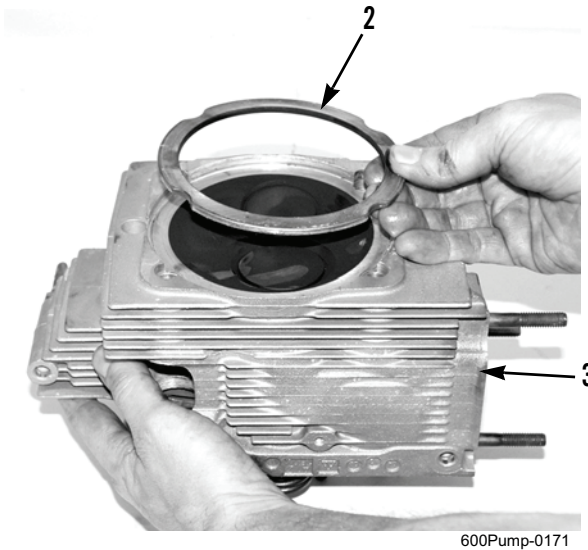

Figure 2. Cylinder Head Gasket.
2. Install cylinder head gasket (Figure 2, Item 2) on cylinder head (Figure 2, Item 3).